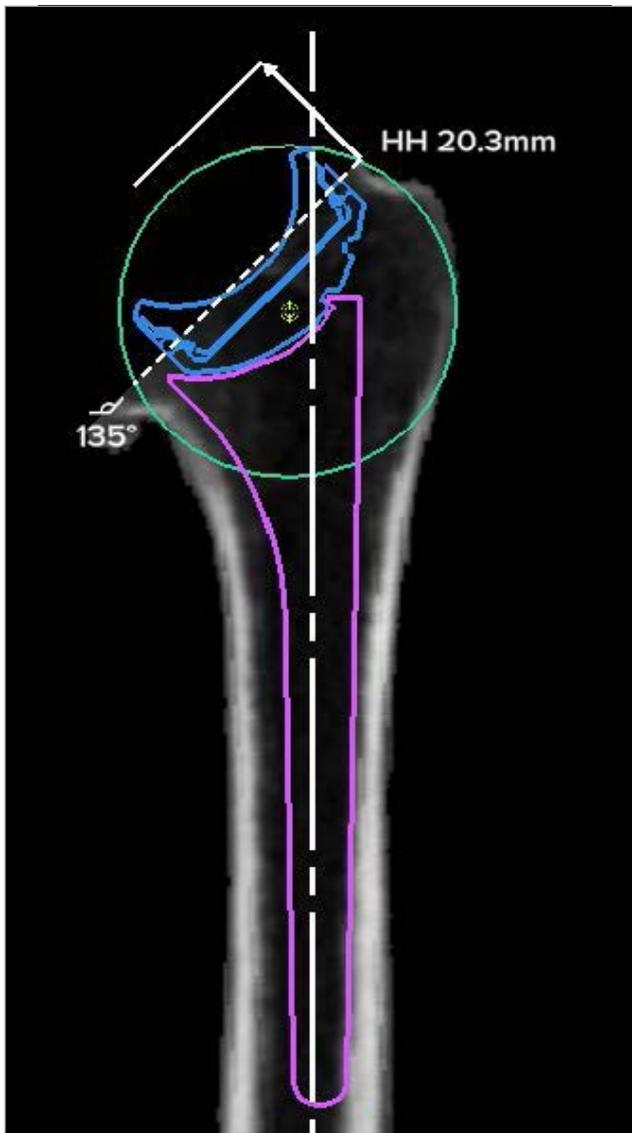

Figure 57. Coronal CT view
- Visualize the selections in the 2D view (Figure 57).